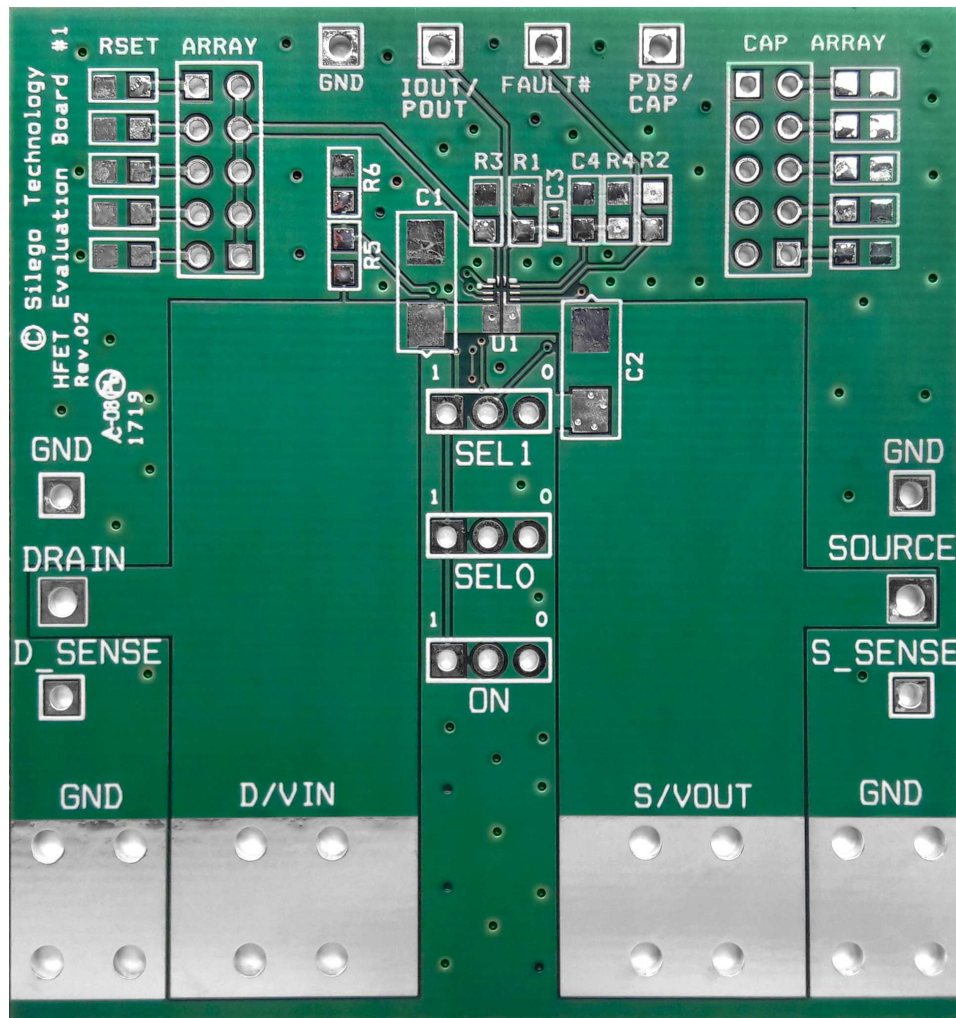

Figure 17. SLG59H1006V Evaluation Board
1. Since the VIN and VOUT pins dissipate most of the heat generated during high-load current operation, it is highly recommended to make power traces as short, direct, and wide as possible. A good practice is to make power traces with an absolute minimum widths of 15 mils (0.381 mm) per Ampere. A representative layout, shown in Figure 17, illustrates proper techniques for heat to transfer as efficiently as possible out of the device;
A High Voltage GreenFET Evaluation Board for SLG59H1006V is designed according to the statements above and is illustrated on Figure 17. Please note that evaluation board has D_Sense and S_Sense pads. They cannot carry high currents and dedicated only for $R_{DS_{ON}}$ evaluation.